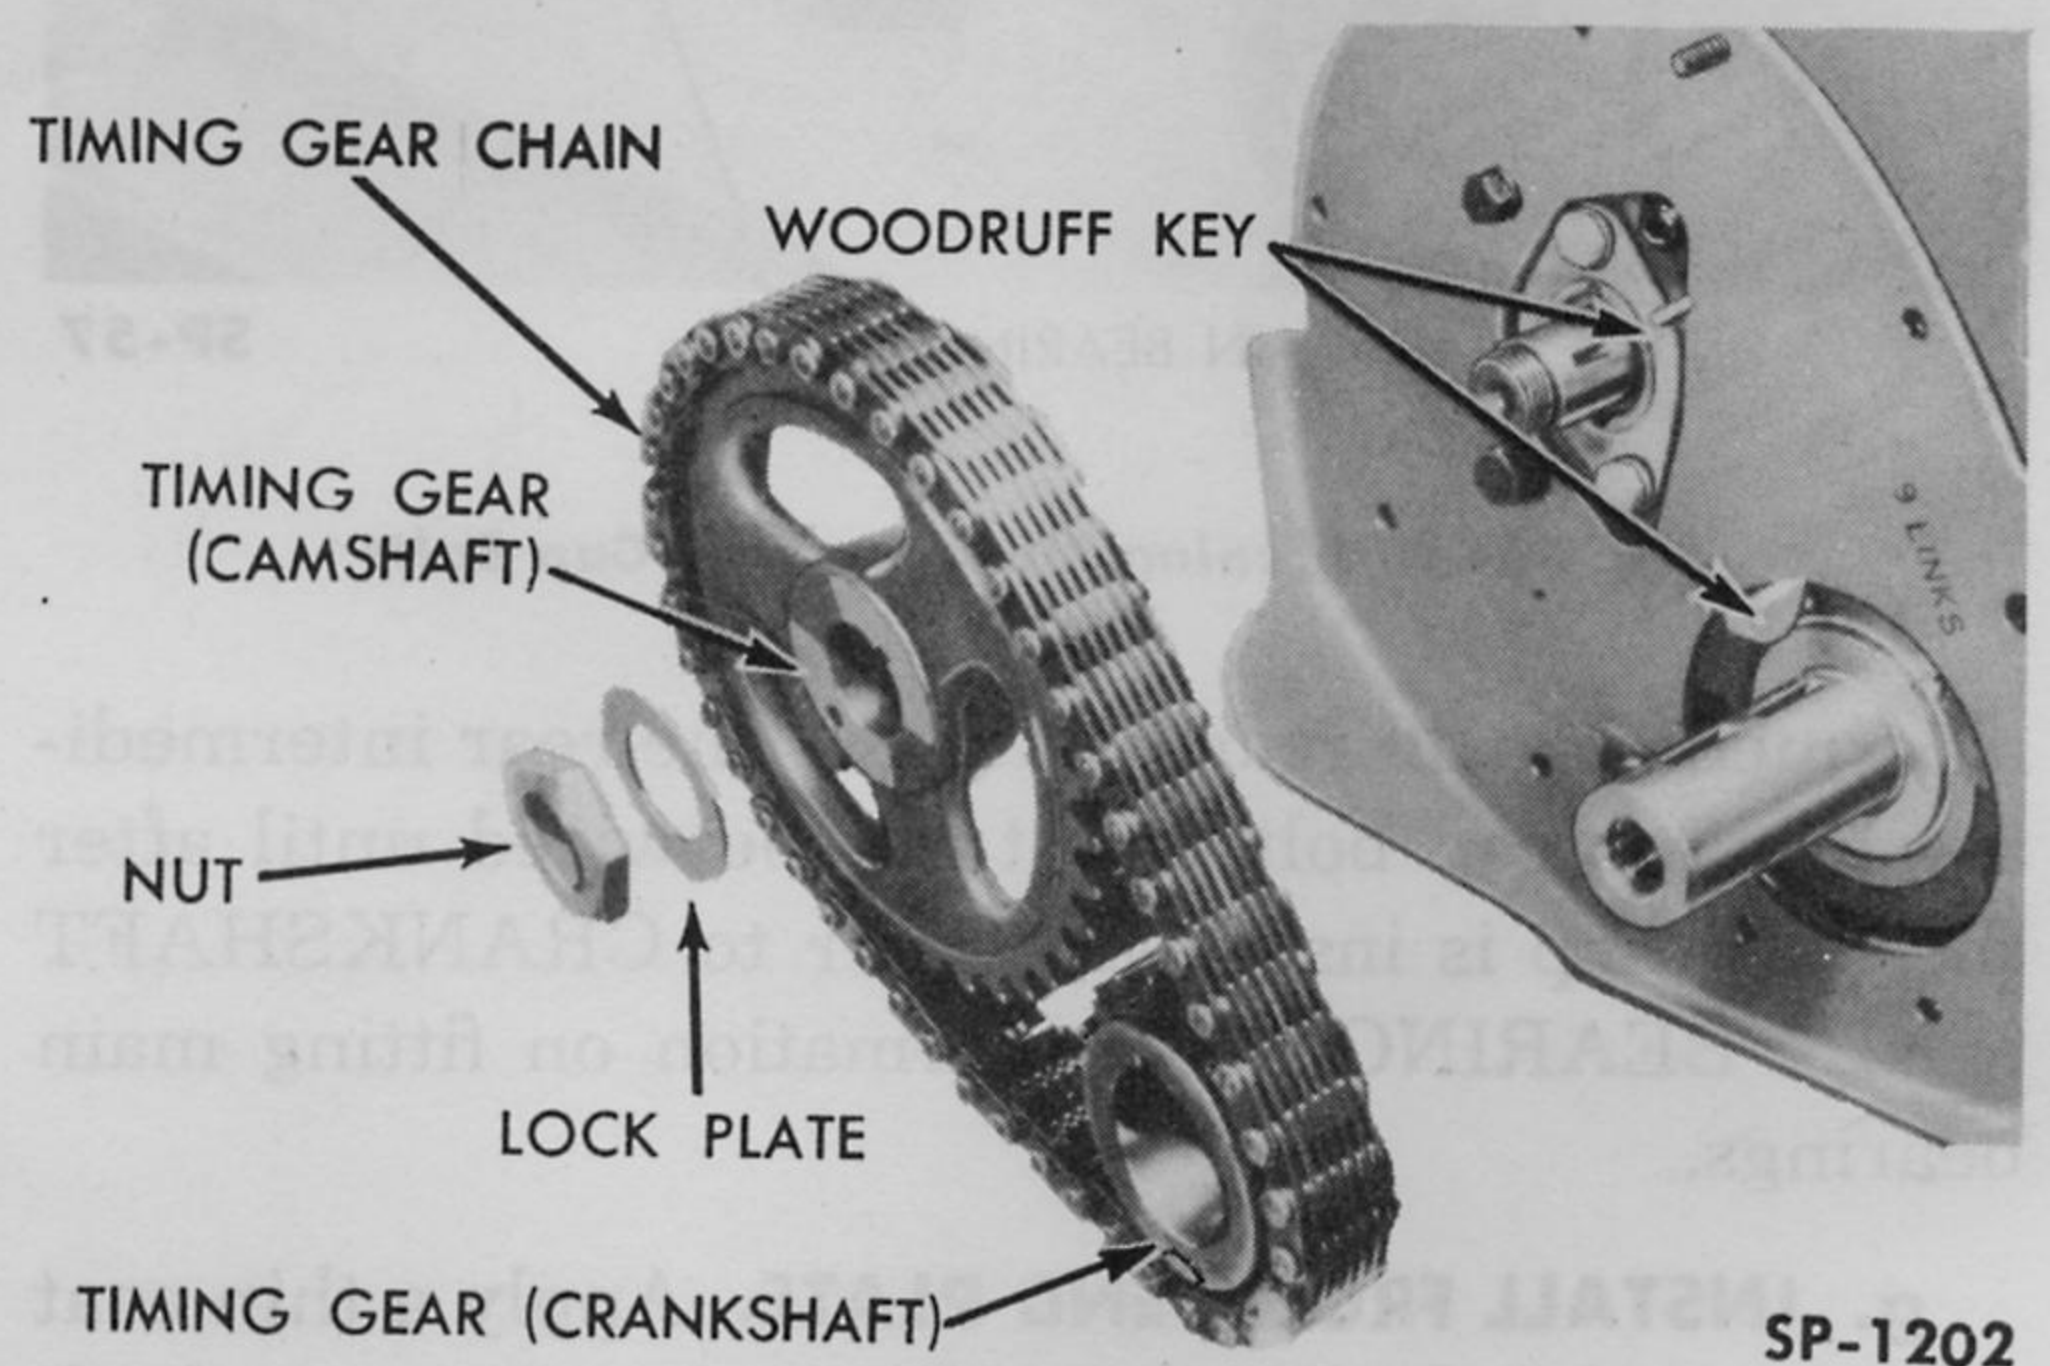

Fig. 91—Timing Gears and Chain—Exploded View
n. INSTALL TIMING GEARS AND CHAIN. Set the timing gears into the timing chain so that the timing marks on the two gears are exactly nine links or ten pins apart. Refer to Fig. 27. Place the small gear of the assembly on the crankshaft and the large gear on the camshaft after the Woodruff keys are placed in their respective keyways (Fig. 91).